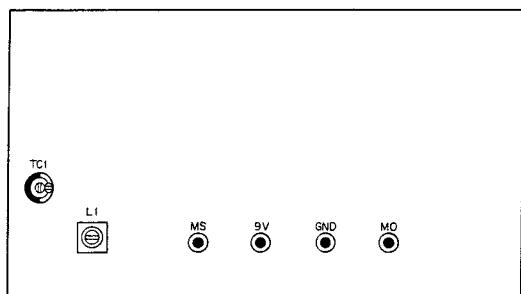

Fig. 29 MARKER unit
- 2) Set the FUNCTION switch to CAL 25 kHz and adjust TC1 in the marker unit for $100,000 \text{ Hz} \pm 1 \text{ Hz}$ (refer to **Fig. 29**).